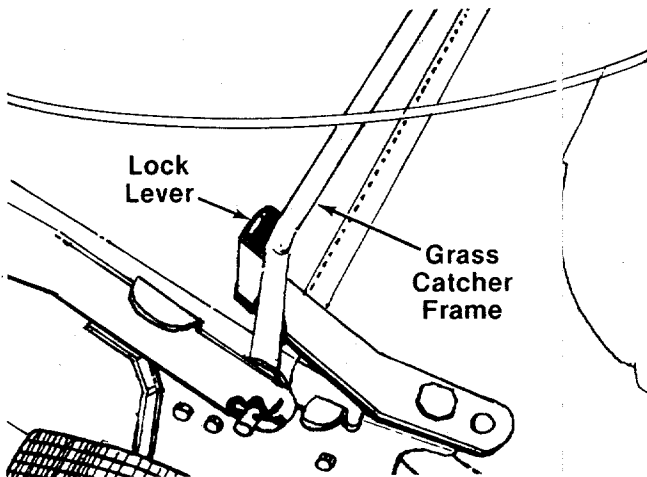

FIGURE 15.
- The grass catcher frame will snap into place, secured by the lock lever. See figure 15.
- To remove the grass catcher, unhook the lock lever and slip the grass catcher off the unit. See figure 15.